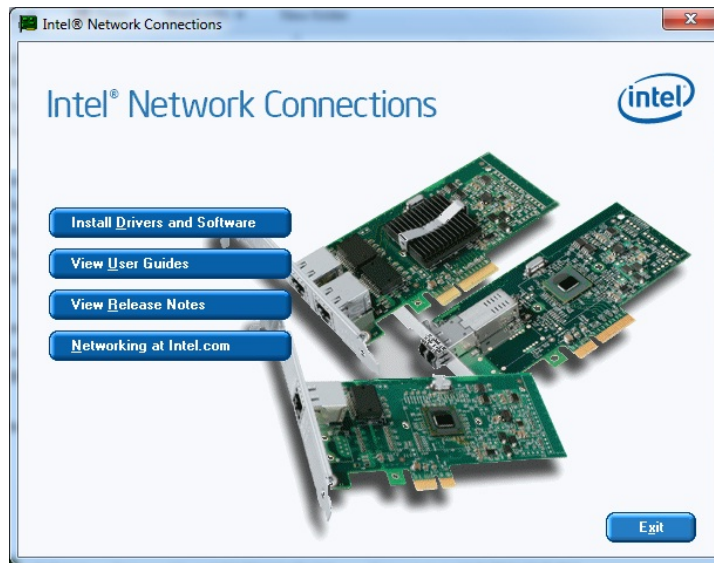

Figure 6-8: Intel® Network Connection Menu
- Step 5:** The Intel® Network Connection menu in **Figure 6-8** appears.